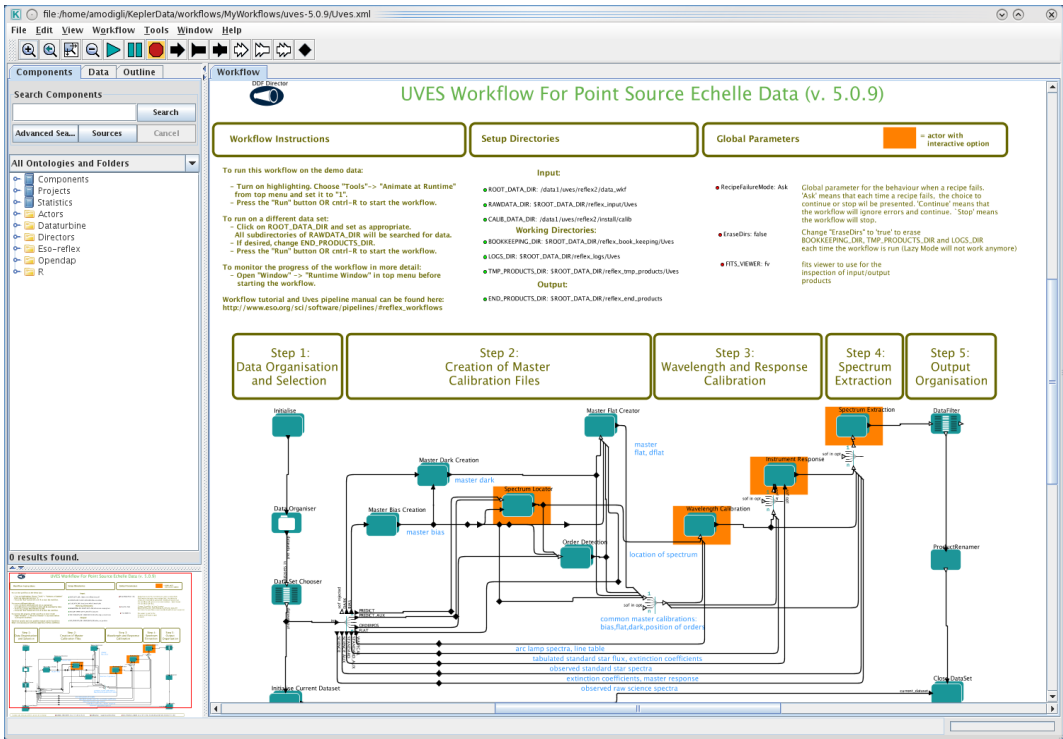

Figure 4.0.2: *UVES workflow general layout.*
2. Now open the UVES workflow by clicking on File -> Open, selecting the file `uves-5.0.9/Uves.xml` in the file browser, and clicking Open (this file is located in `<install_dir>/share/reflex/workflows/uves-5.0.9/Uves.xml` in the pipeline installation). You will be presented with the workflow canvas shown in Figure 4.0.2. Note that the workflow will appear as a canvas in a new window.
The UVES workflow canvas is organised into a number of areas (see Figure 4.0.2). From top-left to top-right you will find general workflow instructions, directory parameters, and global parameters. In the middle row you will find five green boxes describing the workflow general processing steps in order from left to right, and below this the workflow actors themselves are organised as per the workflow general steps.
The workflow canvas displays a number of parameters that may be set by the user (see Figure 4.0.2). Under “Setup Directories” the user is only required to set the `ROOT_DATA_DIR` to the working directory for the DataSet(s) to be reduced, which, by default, is set to the directory containing the demo data. Raw data should be stored in a subdirectory of `ROOT_DATA_DIR`, defined by the parameter `RAWDATA_DIR`, which is recursively scanned by the `Data Organiser` actor for input raw data. The directory `CALIB_DATA_DIR`, which is within the pipeline installation directory, is also scanned by the `Data Organiser` actor to find any static calibrations that may be missing in your DataSet(s). If required, the user may edit the directories `BOOKKEEPING_DIR`, `LOGS_DIR`, `TMP_PRODUCTS_DIR`, and `END_PRODUCTS_DIR`, which correspond to the directories where book-keeping files, logs, temporary products and end products are stored, respectively (see the Reflex User Manual for further details; Forchì 2012).